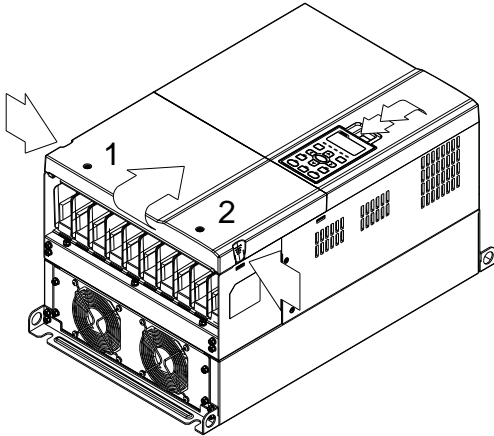

Figure 1
1. (Figure 1) Loosen screw 1 and screw 2, press the on the right and the left to remove the cover, follow the direction the arrows indicate. Press on top of digital keypad KPC-CE01 to properly remove the keypad. Screw torque: 10~12kg-cm (8.6~10.4in-lbf).